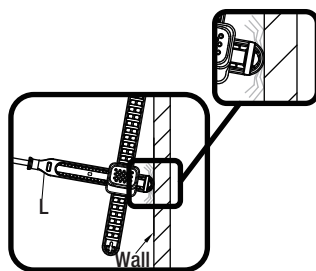

Fig 1
- If the horizontal rod (L) is too long, as shown in Fig 1, the length can be adjusted.
- Remove the clip (P) from the horizontal rod (L). Slide the plastic portion of the rod to adjust to the desired length. The excess length (1) can be removed by snapping off with pliers at the perforated segment, or cut off with a saw.